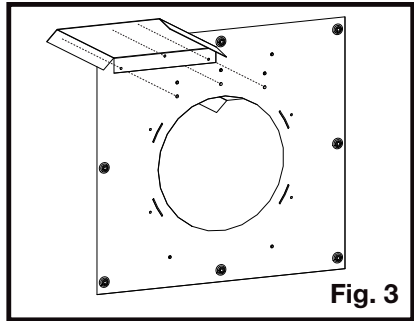

Fig. 3
- 3. Install the other vent shield on the opposite side of the firestop spacer (Fig. 3).